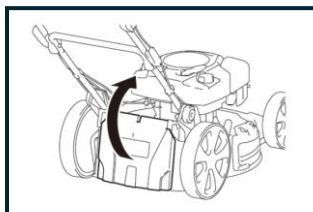

FIG 9A
7.3.1 Lift the rear discharge guard, assemble the chute flap, and then close the rear discharge guard as shown in Figures 9A, 9B, and 9C.